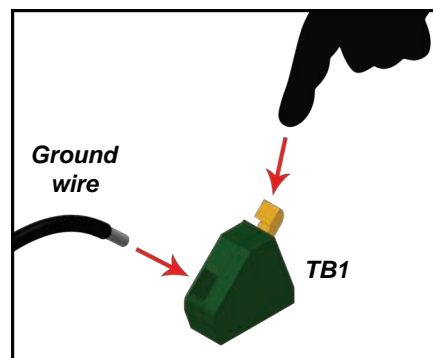

Figure 2 - With your finger, push downward on the terminal block orange lever, then insert one end of the stripped (bare) black ground wire into the hole.
5) The included black ground wire must be connected from the circuit board's green ground terminal (TB1) to your vehicle's chassis ground or negative battery terminal. Chassis ground is any conductive connection between the vehicle frame and the car battery's negative terminal. Push the orange lever down on the green ground terminal and simultaneously insert one stripped end of the black ground wire into the opening (see Figure 2). Release the orange lever and pull on the black ground wire to make sure it is secured.